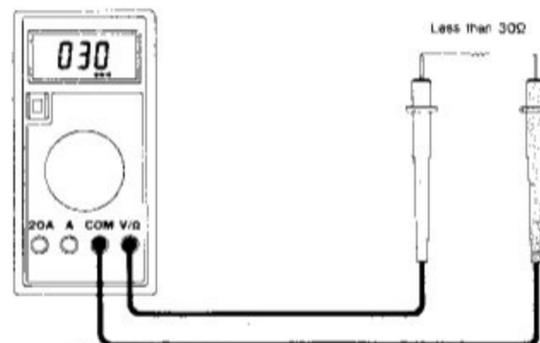

Fig. 5-8 Audible Continuity Test
2. Set the function switch to the \rightarrow  range (same range as diode) and connect test leads across the resistance under measurement. See Figure 5-8.